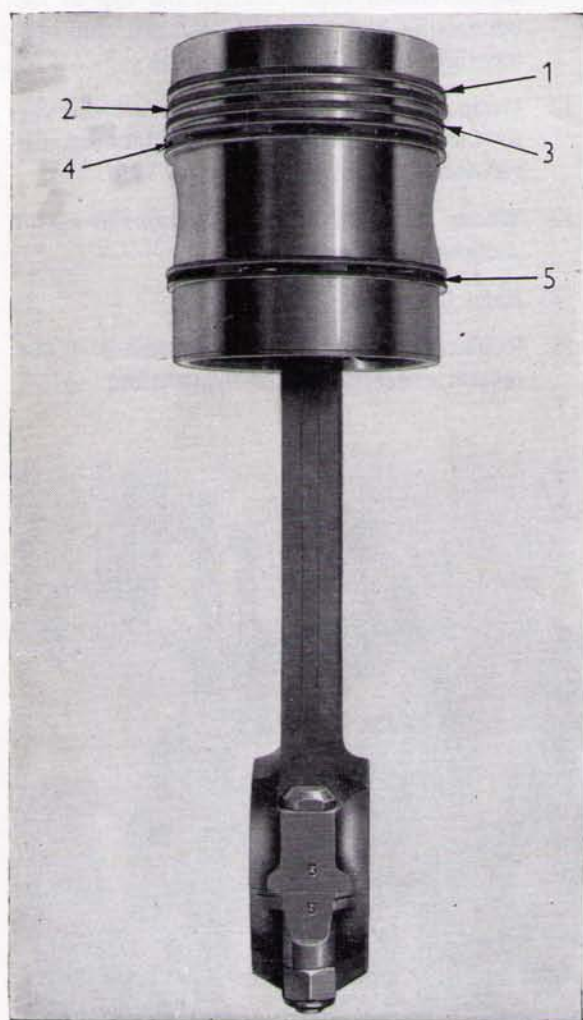

Fig. J.1.
The pistons are of high silicon aluminium and are not graded to bore size. They are not interchangeable between the Four 192 and the Four 203 engine due to difference in bore size. Grooves are provided to take three compression rings and one oil control ring above the gudgeon pin and one oil control ring below the gudgeon pin. (See Fig. J.1).
The connecting rods are numbered on cap and rod, (See Fig. J.1 and J.4) when fitted to the engine in production and the assembly is fitted to the crankshaft so that these numbers are on the fuel pump side of the engine. Always fit the cap to the connecting rod so that the numbers are both on the same side. Never re-assemble the cap to the connecting rod incorrectly.
11. Liberally oil and locate the lower half bearing in the cap with the tongue registering in the machined recess and fit the cap to the connecting rod with the stamped numbers together. (See Figs. J.1 and J.4).